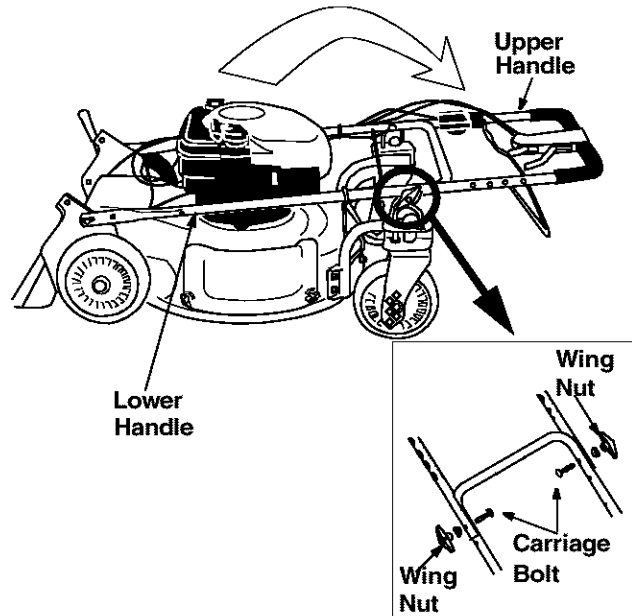

Figure 3
- Pull the upper handle upwards in the direction shown in Figure 3. Align it with the lower handle.